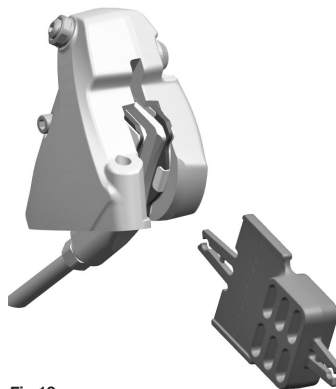

Fig.18
- If you need to remove the wheels from the bike, ensure that you have inserted the transport tool (Fig. 18/ 19) which prevents the brake pads from coming together if the brake lever is accidentally engaged, making it impossible to insert the disc.